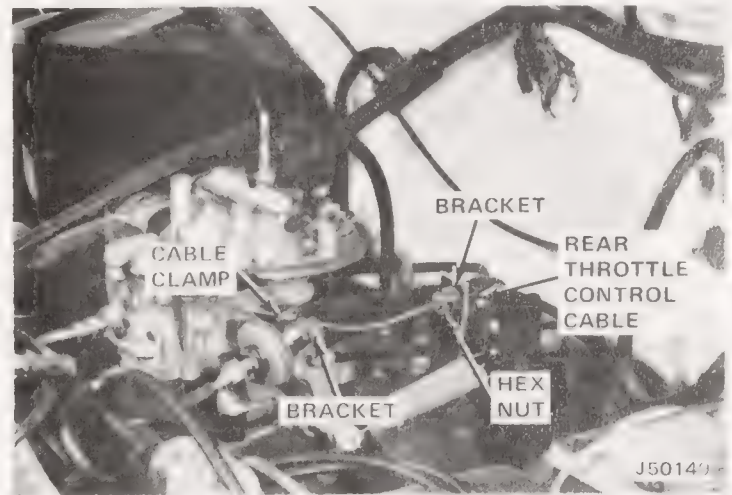
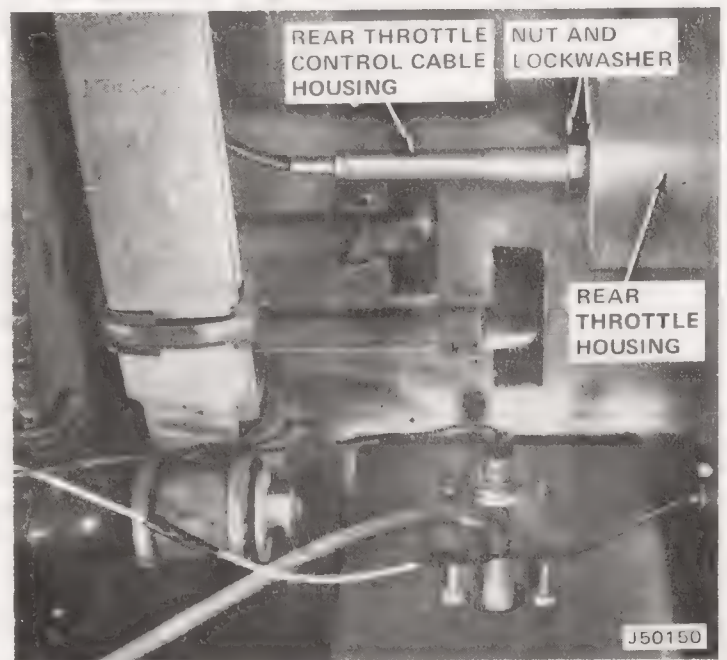

Fig. 10-6 Rear Throttle Control Cable at Carburetor
Fig. 10-7 Rear Throttle Control Cable and Housing
(1) Remove air cleaner.
(2) Remove cable clamp from throttle control cable at carburetor linkage (fig. 10-6).
(3) Remove hex nut securing throttle cable to bracket at rear of engine.
(4) Remove nut and washer from back of throttle control in quarter panel (fig. 10-7). Remove assembly and pull cable through chassis.
(2) Route cable forward through vehicle chassis to carburetor (fig. 10-6).
(3) Install cable in bracket at rear of engine and secure with hex nut.
(4) Install cable clamp on cable.
(5) Install air cleaner.